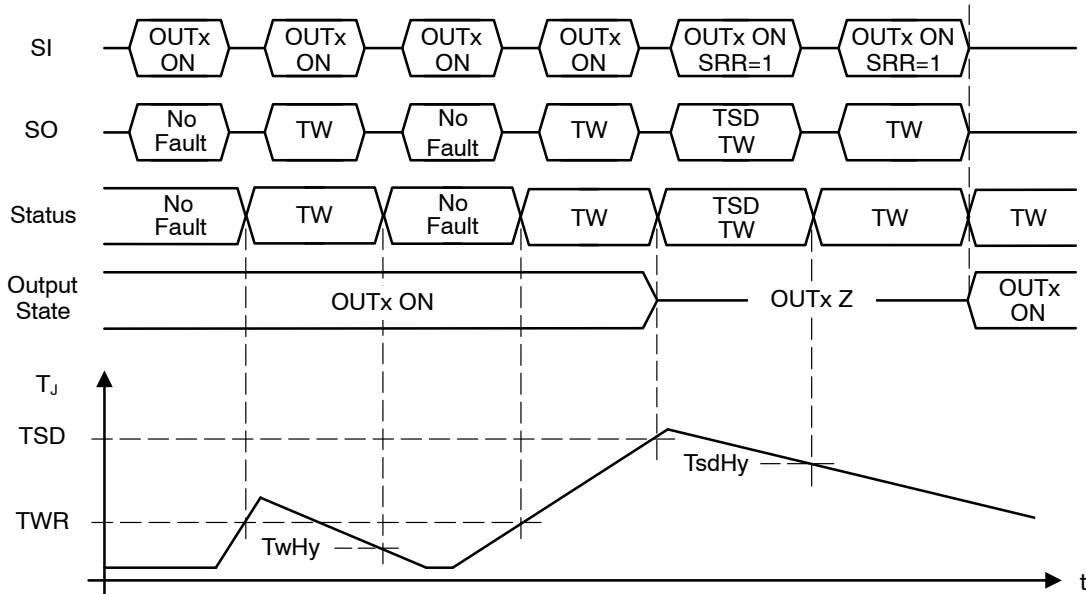

Figure 23. Thermal Warning and Shutdown Timing
Thermal warning (TW) and thermal shutdown (TSD) detection and control are provided for each half-bridge by monitoring the driver pair’s thermal sensor. Thermal hysteresis is provided for each of the warning and shutdown functions to ensure clean detection transitions. Since TW notification precedes TSD, software polling of the TW bit enables avoidance of thermal shutdown. Thermal warning and shutdown timing is shown in Figure 23.